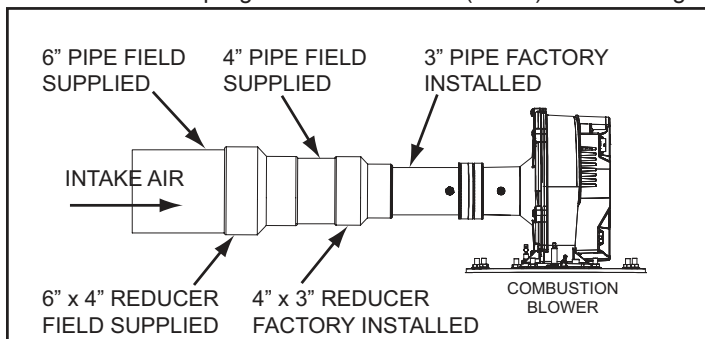

Figure 18. Intake Air Connection
14. If installing 6" intake air pipe transition to 4" pipe at the intake air connection on the water heater as shown in **Figure 18**. The field installed 4" pipe between the intake air connection and the 6" x 4" reducer coupling should be 18 inches (45 cm) or less in length.